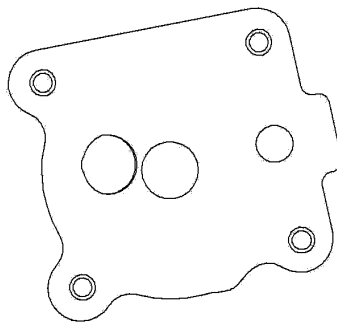

Figure 1: Accessory Case Oil Filter Pad
- 6.2 Visually inspect the oil filter mounting pad to confirm that the profile is the same as depicted in Figure 1. If your mounting pad does not conform to this figure, the ECi angled oil filter adapter may not be used.